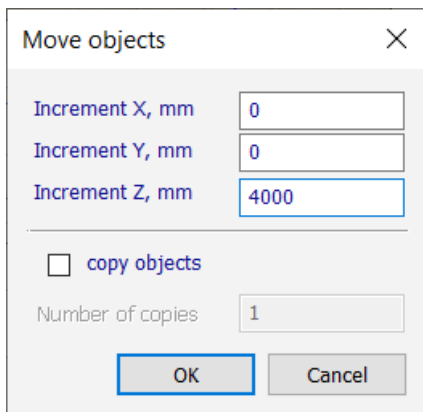

Figure 23.17. **Move objects** dialog box
- ⇒ In the **Move objects** dialog box (see Fig. 23.17), define the following data: